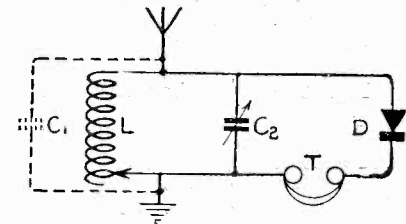
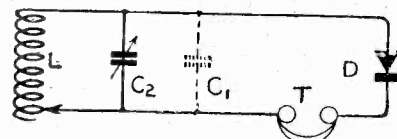
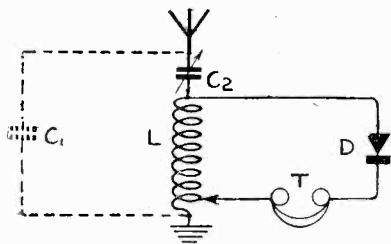
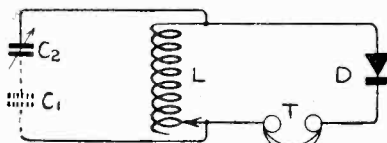

Fig. 5.—Tuning with parallel capacity.
Fig. 6.—The Figure 5 circuit simplified.
Fig. 7.—Tuning with a series condenser.
Fig. 8.—The Figure 7 circuit simplified.
There are two ordinary methods of tuning an aerial circuit; these are: (1) the use of a parallel condenser which is shunted across the aerial inductance, as shown in Fig. 5; (2) a series variable condenser is connected in series with the aerial inductance, as shown in Fig. 7.
In both Fig. 5 and Fig. 7 the
Fig. 6 shows what the Fig. 5
Valve users and those who use a loose-coupled transformer will tell you that a much wider range of wavelengths can be obtained with a given coil and a given variable condenser in the anode circuit of a valve, or in the case of a secondary of a loose-coupled transformer than when the same coil and same condenser are used in an aerial circuit, as shown in Fig. 5. We take an extreme case by supposing that the capacity of the aerial C_1 were $1 \mu F$; obviously any variation of the condenser C_2 having a capacity of $0.0005 \mu F$ would produce practically no change in the total capacity across the inductance L , and practically no change in tuning would result. Consequently the larger the capacity of the aerial, the shorter the range of wavelengths obtainable with a given variable condenser connected in parallel with the inductance.
Fig. 5 and Fig. 6, changes in aerials will result in an entire change of the tuning of the circuit. If an aerial of large capacity, for example, is used, the condenser C_1 of Fig. 6 will be large, and consequently the condenser C_2 must be adjusted to a smaller value to give a certain wavelength. If, on the other hand, an aerial of small capacity is used, the condenser C_1 will be small, and C_2 will have to be adjusted to a higher value; consequently the same station might be heard in one case with an adjustment of 5 degrees on the condenser, and in the other case with 100 degrees on the condenser. Where trouble usually begins is when an entire change of coils becomes necessary. If, for example, one is working with a No. 50 honeycomb coil, and the condenser C_2 is adjusted to 5 degrees and an aerial of small capacity is being employed, when the same set is used by another experimenter on a larger aerial having a larger capacity, it is necessary for that experimenter to use a smaller plug-in coil, because he cannot get down to the wavelength on his variable condenser. This change in the plug-in coil will frequently alter the operation of the set, parti-
Fig. 7 shows the method of tuning an aerial circuit by connecting a variable condenser C_2 in series with the inductance L , across which is connected the crystal detector or the grid circuit of the valve.
Fig. 8 shows how Fig. 7 may be resolved into a simple oscillatory circuit. This time a condenser C_1 represents the aerial capacity, and it will be seen that the variable condenser C_2 , which is used for tuning purposes, is connected in series with C_1 . The inductance L is now shunted by two condensers in series, whereas in Fig. 6 the two condensers were in parallel. The natural result is that when a series condenser is used, a larger inductance is necessary.
When two condensers are connected in series, as in Fig. 8, they may be replaced by a single condenser, but in order that the capacity should be the same, this condenser would need to have a value of less than the value of either C_1 or C_2 .
As regards efficiency, the series tuning arrangement of Fig. 7 is but little different to the arrangement of Fig. 5 on short wavelengths. When wavelengths above 1,000 metres are being received, the parallel arrangement is much to be preferred, but on the broadcast waveband both methods have their adherents. Valve users will find that greater reaction, and consequently a greater tendency to oscillate, accompanies the use of a